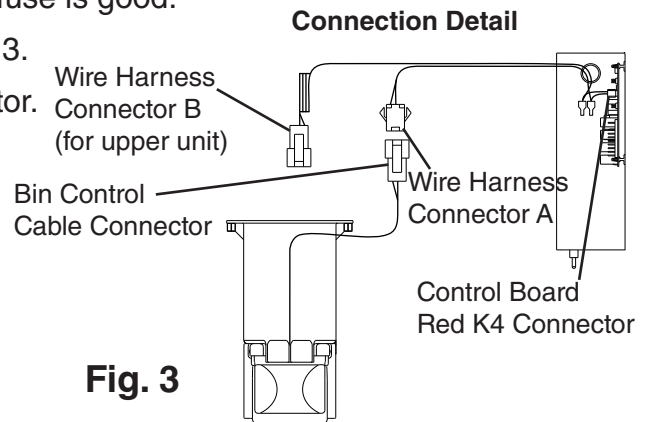

Fig. 3
- 5) Check BC wire harness connections. See Fig. 3.